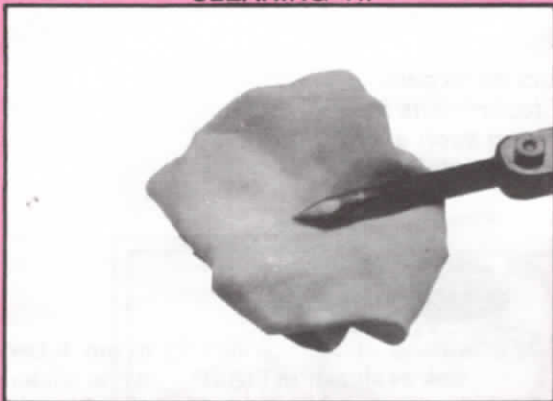

FIG. 5
3. Be sure the tip of the iron is well tinned (coated with a thin layer of molten solder) so that it will properly conduct heat. To keep the tip clean, wipe it from time to time with a damp sponge or cloth. (See Fig. 5.) Do not clean on a sal ammonia block.